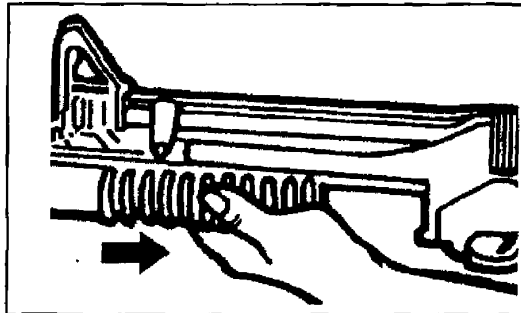

Figure 071-311-2125-8. Locking the M203 barrel
- c. Install the handguard and secure with the slip ring (figure 071-311-2125-9).